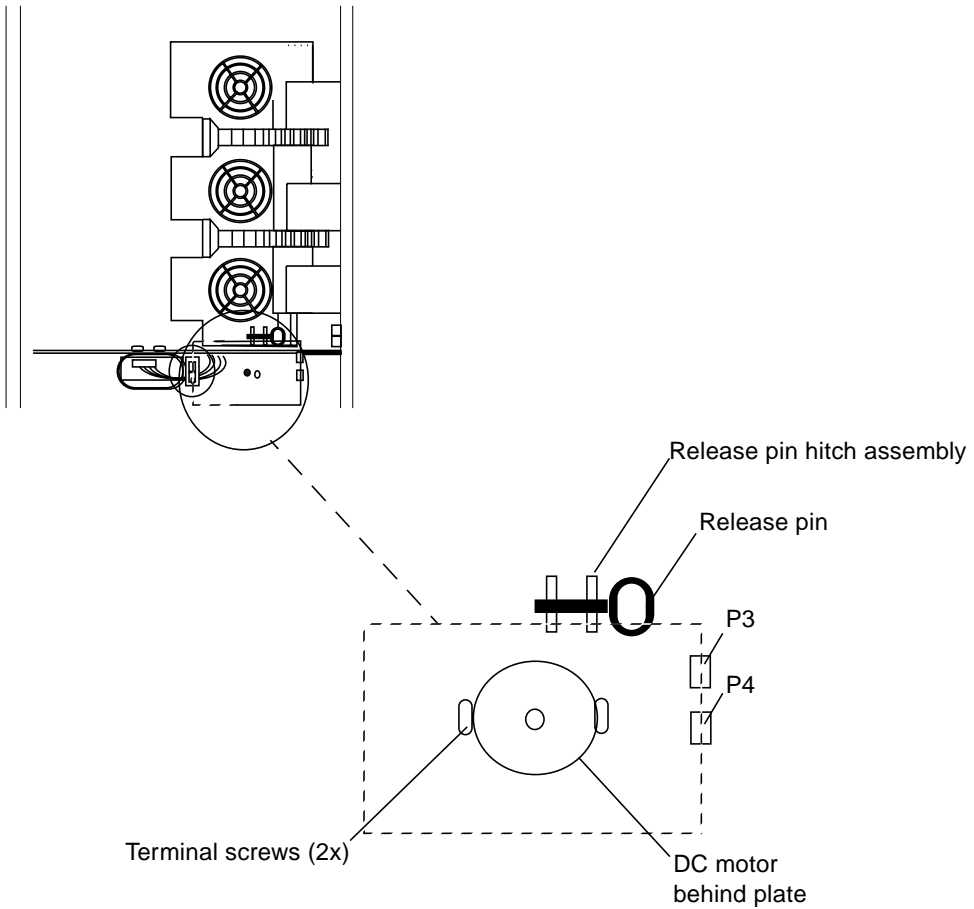

FIGURE 6-23 Linear Actuator Device
1. **Remove connector plugs P3 and P4 from the front plate, as shown in FIGURE 6-23.**
1. **Push the LAD through the rear of the cabinet into place (see FIGURE 6-23).**
5. **Replace connector plugs P3 and P4 from the front plate, as shown in FIGURE 6-23.**
2. **Replace the terminals from the LAD power supply as shown in FIGURE 6-23.**